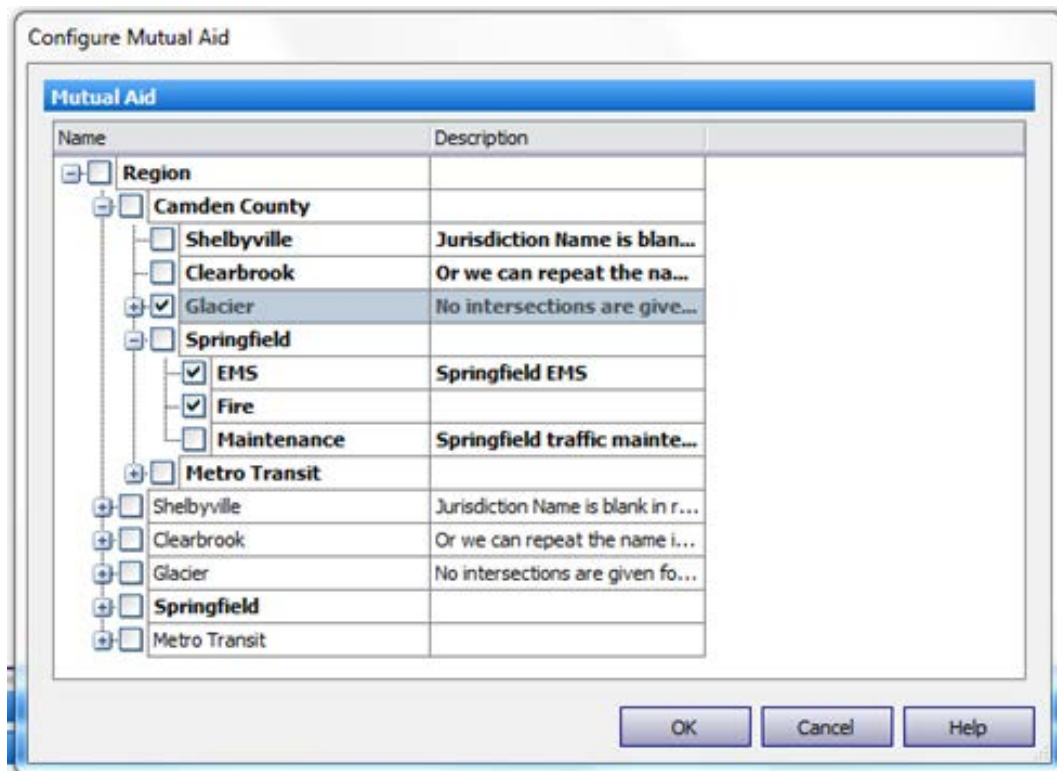

Figure 7-5
4. Expand a configurable jurisdiction, and there will be a list of all the other jurisdictions under it. See Figure 7-5